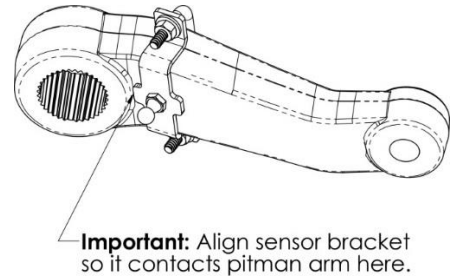

Figure 27: Locating the Ball Stud on Pitman Arm
7. Attach the Ball Stud Bracket to the Pitman arm as shown in Figure 27. Torque U-Bolt nuts to **60 – 85 in-lbs.**